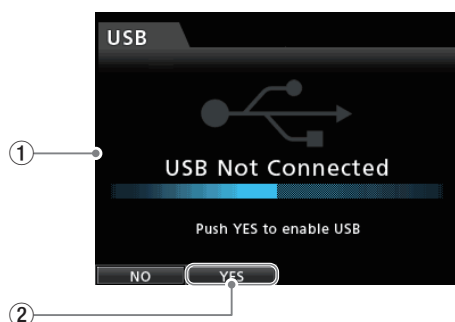

Fig 2
- 1-2-1 After opening the USB connection selection screen (Fig. 2-①), press the **F2** button (Fig. 2-③), which corresponds to the YES icon at the bottom left of the screen (Fig. 2-②), to enable the USB connection.